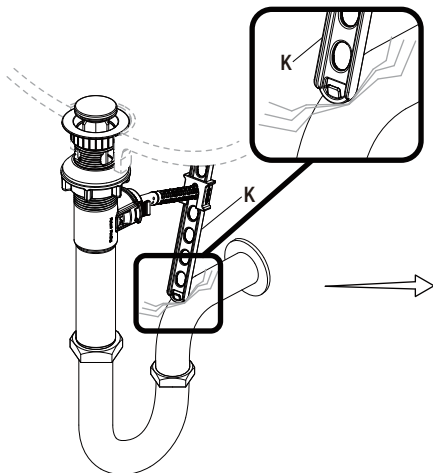

Fig 1
- If the pop up lift rod strap (K) is interfering with your installation, as shown in the Fig 1, the lift rod strap (K) can be cut shorter.